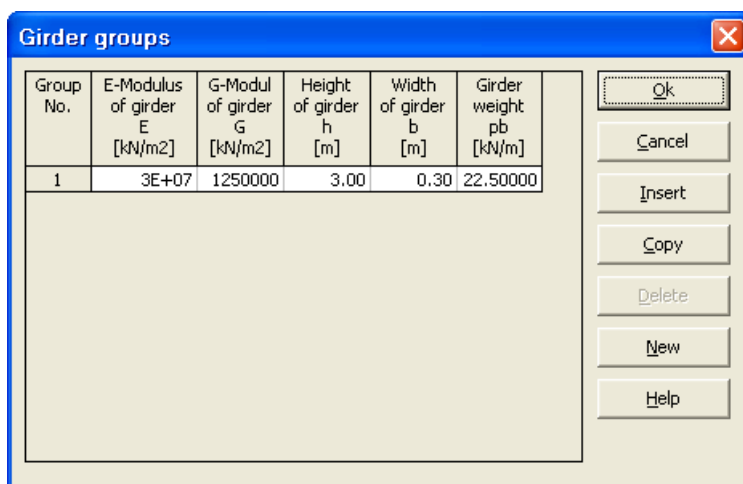

Figure 13-17 "Defining girder groups" list box
After clicking "OK" button in the "Cross section definition" option box, the following list box in Figure 13-17 appears.
- Enter the material properties of the walls, cross section dimensions and the wall weight as indicated in Figure 13-17. This is done by entering the value in the corresponding cell and press "Enter" button